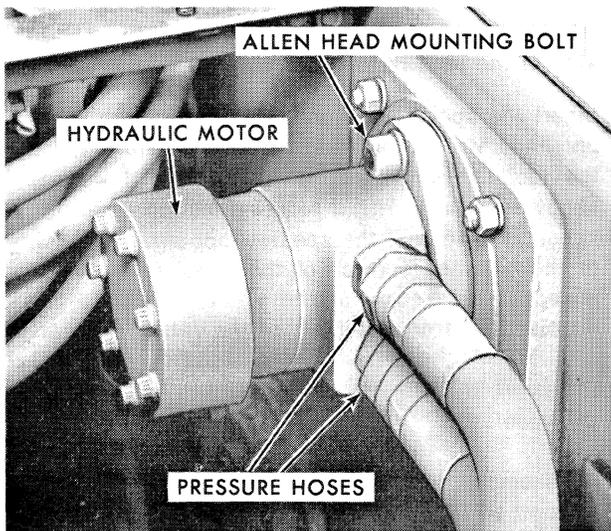

Figure 8
1. Disconnect the two hydraulic pressure hoses, Figure 8.